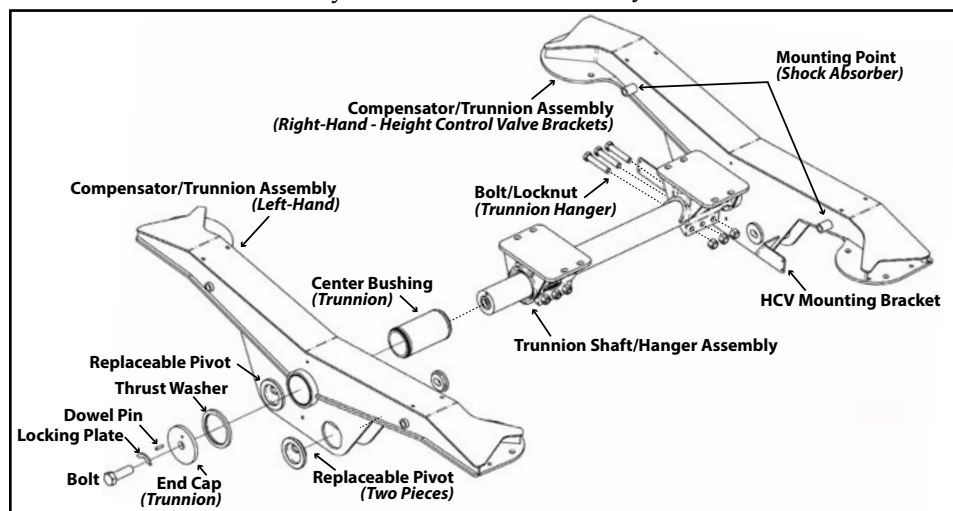

Figure 8. Compensator/Trunnion Components (Narrow-See 6110039/610042 drawing) (Wide bushing suspension not shown - See 6110043 drawing)
4. Grind off the weld on locking plate over the trunnion shaft bolt. Remove locking plate, dowel pin, trunnion shaft bolt, end cap; thrust washer (Fig 8). NOTE: Dowel pin required for trunnion reassembly.